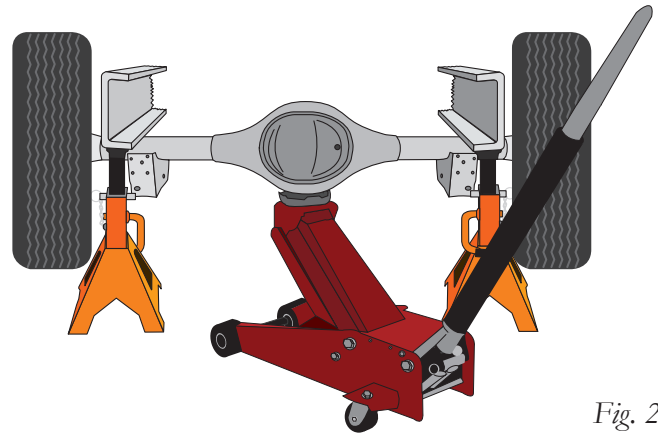

Fig. 2
1. Raise the vehicle and support it in a way, using safety stands or equivalent, that the axle can be safely dropped away from the frame. This will need to be done in order for the air spring assemblies to be put into position between the axle and frame (Fig. 2).